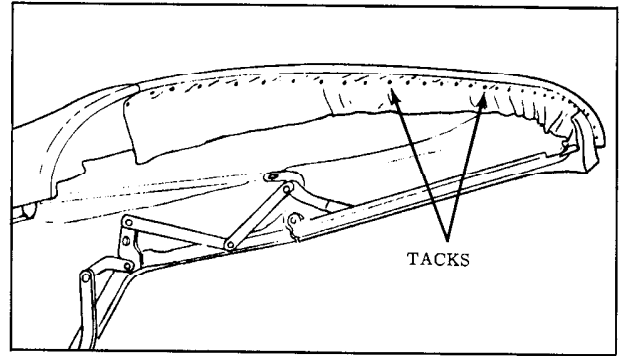

Fig. 17-147 Tacking Trim to Rail
47. Unlock top from windshield header and apply neoprene-type weatherstrip adhesive to tacking area of front roof rail. Pull top trim material slightly forward so that pencil marks are forward of front edge of front roof rail. Fasten top trim to cemented area and stay tack trim to rail. (Fig. 17-147)